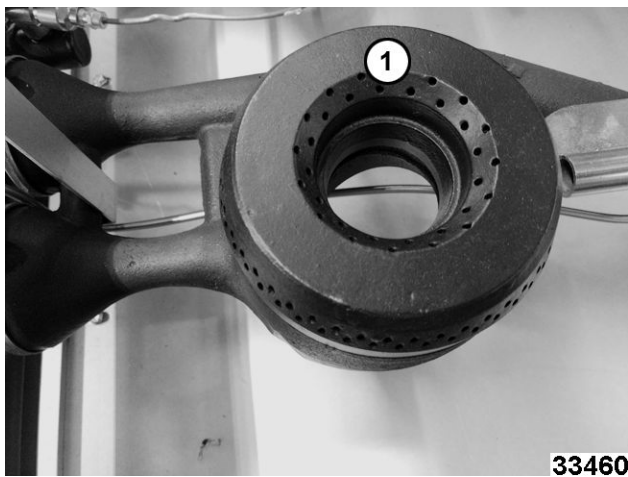

Fig. 26
3. Lift burner heads (1, Fig. 26) off.